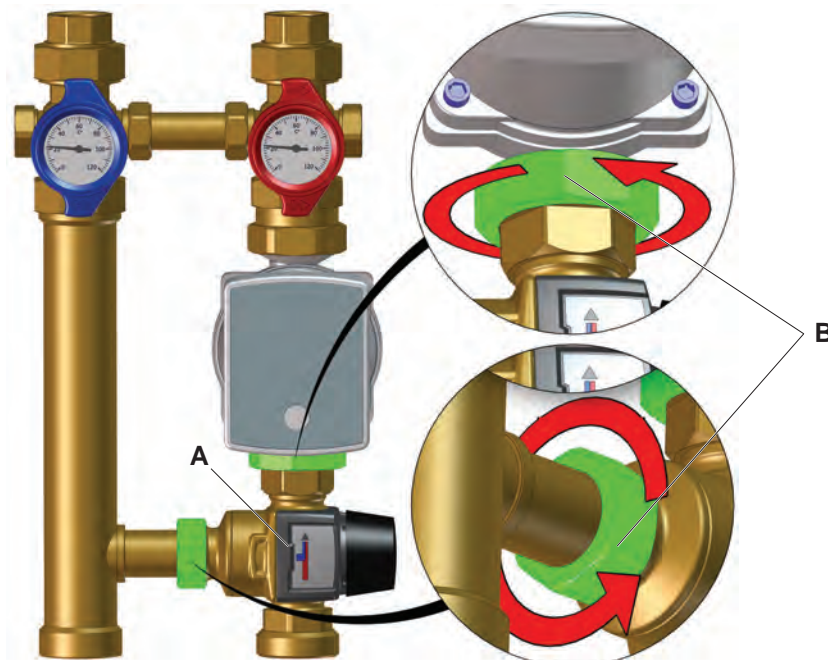

Fig. 9: Dismantling the thermal mixer valve with temperature setting
- Slowly** open the ball valves (multi-function fittings, pos. A, Fig. 9 on page 15) by turning the thermometer handle (see “Thermometer handle settings” on page 11).
- Insert the thermal mixer valve and tighten the nuts (pos. B, Fig. 9 on page 15) (for tightening torques, see “Technical data” on page 18).